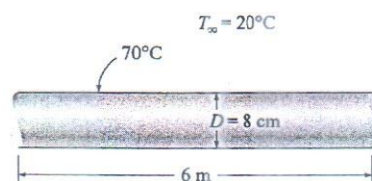

Figure: 2
5. 6-m-long section of an 8-cm-diameter horizontal hot water pipe shown in Fig. 2 passes through a large room whose temperature is 20°C . If the outer surface temperature of the pipe is 70°C , determine the rate of heat loss from the pipe by natural convection. [25]